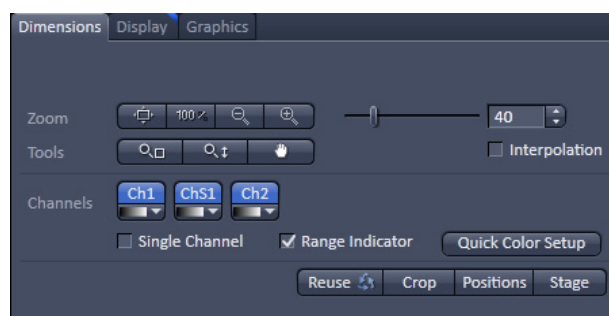

Fig. 22 View Dimensions Control Tab
- In the **View – Dimensions** View Option Control Tab, activate the **Range indicator** check box (Fig. 22).